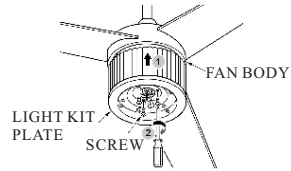

FIG.13
2. Lift the light kit plate onto the light kit adapter and align the three holes on light kit plate with the light kit adapter. Tighten back the 3 removed screws. (See Fig 13)